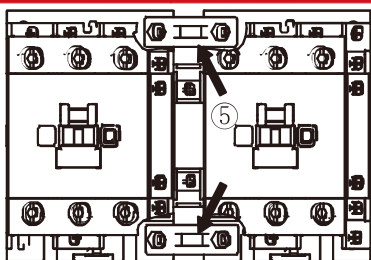

Figure 14
(3) The installation method of HFR6 mechanical interlock is shown in Figure 14. For HDCK-09~38A, only steps ① to ④ need to be completed. For HDCK-40~95A, the fixing connecting plate also needs to be installed.